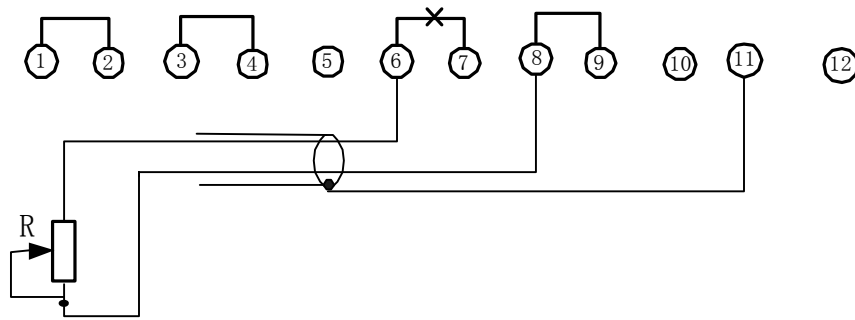

Fig.9
- a. Disconnect (6) and (7), the shielded two—wire cable is connected as shown in Fig.9